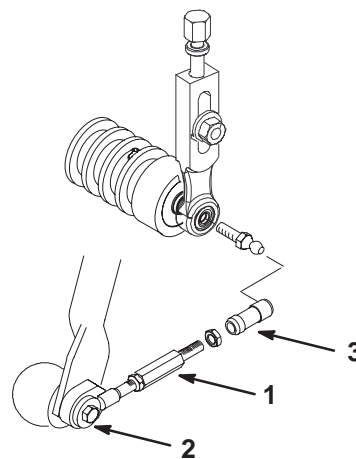

Figure 5
2. Loosen jam nuts and remove existing pull arm extension from pull arms and ball joint receivers on all carrier frames (Fig. 5).